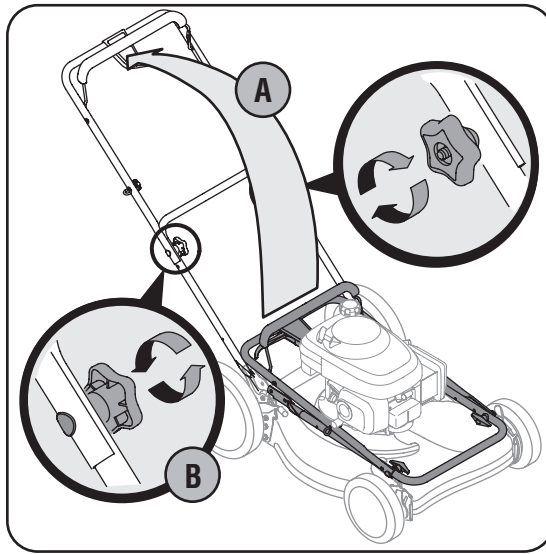

Figure 3-1
- a. Pull up and back on upper handle as shown in Figure 3-1. Make certain the lower handle is seated securely into the handle mounting brackets.